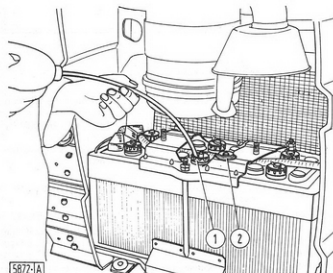

Fig. 247 - Checking Battery Electrolyte Level
Check the electrolyte level at 150 working hour intervals with a cold battery. Ensure that caps (1, Fig. 247) are tight, take off cover (2) and pour distilled water very slowly into the tapered well in each cap until the water